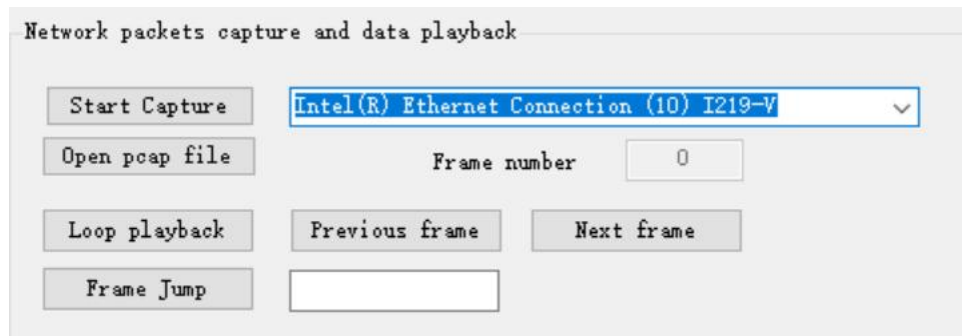
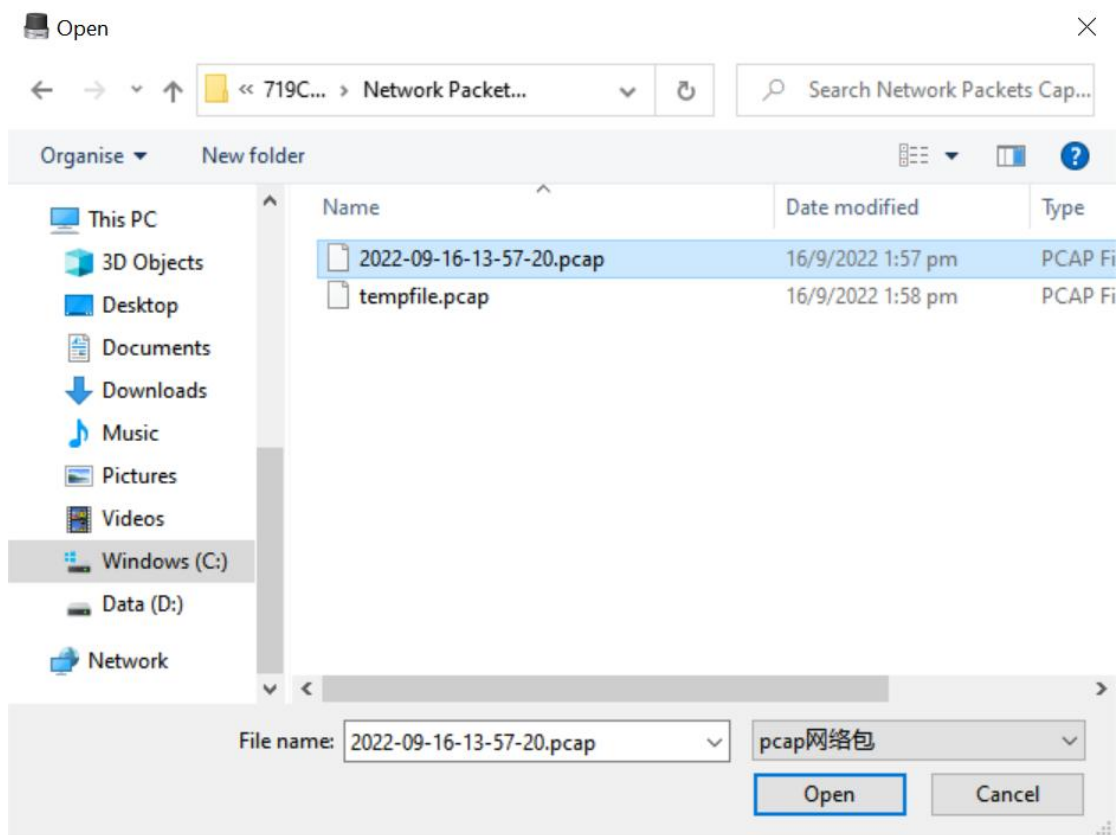

Figure 4.8 Select the corresponding network card
Figure 4.9 Set the pcap packet name and save location
1) pcap packet capture: When the LiDAR and the computer are successfully connected and the point cloud is displayed normally, as shown in Figure 4.8, first select the corresponding network card, and then click the "Start packet capture" button. The packet capture starts and the "Start Packet Capture" button becomes the "Stop Packet Capture" button. When you want to stop the packet capture, click the "Stop Packet Capture" button. As shown in Figure 4.9, a box will pop up, and you can change the